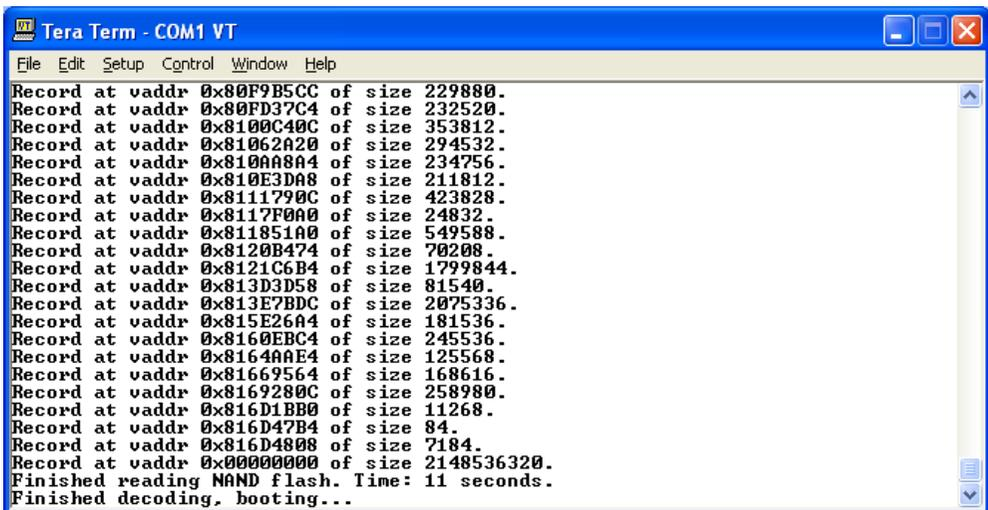

Figure 111:
11. Operate Machine .The following will start to run (Figure 111).